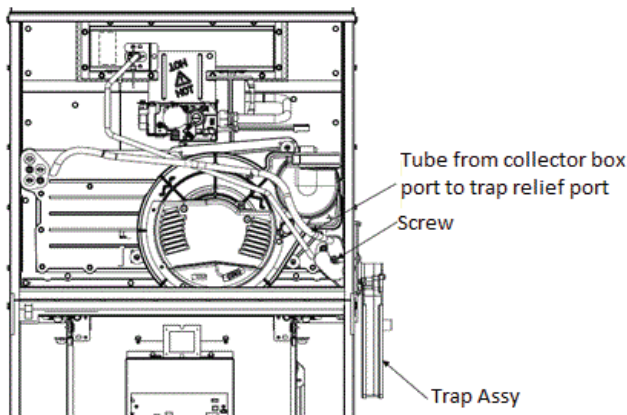

Fig. 19 – Example of Tube Connection A200077
(see Fig. 19). If the tube is too long, cut any extra length from the tube.
4. Remove factory-installed collector box cap. Run tube from port on upper left of the collector box to the relief port on the trap adapter (Fig 19). If the tube is too long, cut any extra length from the tube.